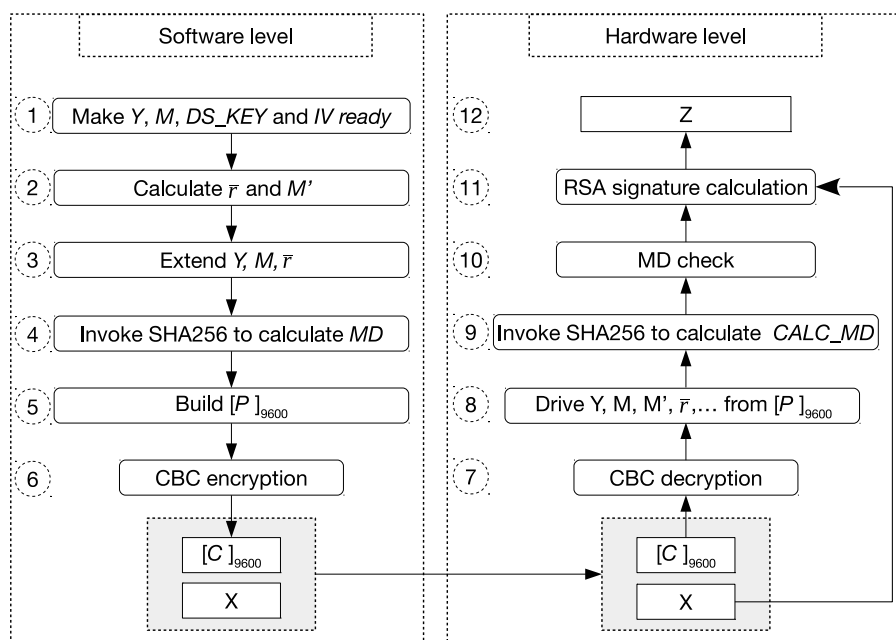

Figure 22.3-1. Software Preparations and Hardware Working Process
1. The software preparation (left side in the Figure 22.3-1) is a one-time operation before any signature is calculated, while the hardware calculation (right side in the Figure 22.3-1) repeats for every signature calculation.
You need to follow the steps shown in the left part of Figure 22.3-1 to calculate C . Detailed instructions are as follows:
1. Decryption: Step 7 and 8 in Figure 22.3-1
The decryption process is the inverse of Step 6 in figure 22.3-1. The RSA_DS peripheral will call AES accelerator to decrypt C in CBC block mode and get the resulted plaintext. The decryption process can be represented by $P = \text{AES-CBC-DEC}(C, \text{RSA\_DS\_KEY}, IV)$, where IV (i.e., $[IV]_{128}$) is defined by you. $[\text{RSA\_DS\_KEY}]_{256}$ is provided by HMAC module, derived from HMAC_KEY stored in eFuse. $[\text{RSA\_DS\_KEY}]_{256}$, as well as $[\text{HMAC\_KEY}]_{256}$ are not readable by users. For more information, please refer to Chapter 19 HMAC Accelerator \(HMAC\).
2. Check: Step 9 and 10 in Figure 22.3-1
The RSA_DS peripheral will perform two checks: MD check and padding check. Padding check is not shown in Figure 22.3-1, as it happens at the same time with MD check.
3. Calculation: Step 11 and 12 in Figure 22.3-1